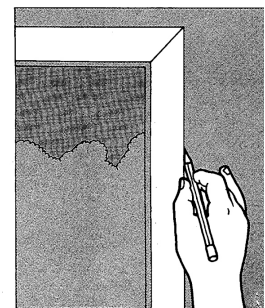

Figure 1B-1
1. Remove all the exposed trim or facing boards surrounding your door frame. Use a pencil to outline the position of the trim while it's still on the wall. In this way, you will know just where to place it when you are finished (Figure 1B-1).